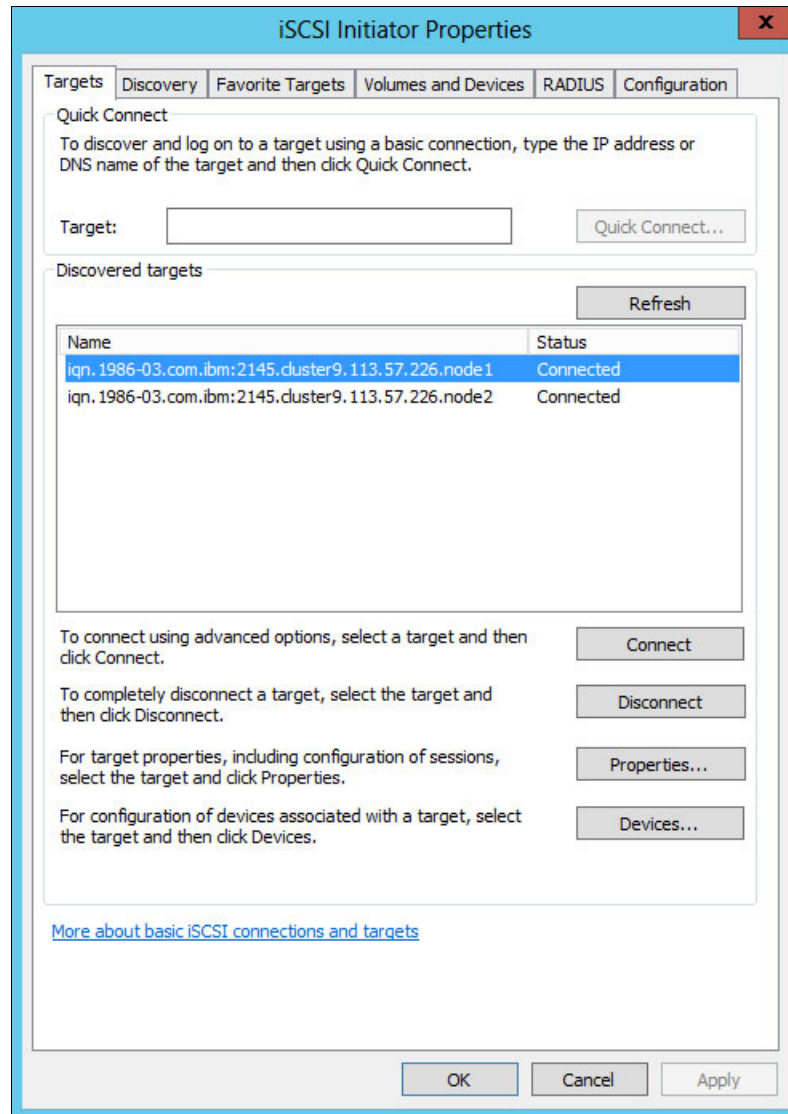

Figure 7-27 Logged in targets
10. After the connection is established, you can see that both targets are connected, as shown in Figure 7-27.